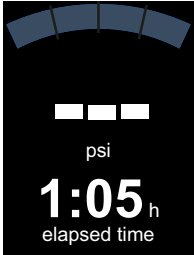

Fig. 17 Pressure sensor fault
- The pressure value is blanked and no pressure is shown on the display (Fig. 17)